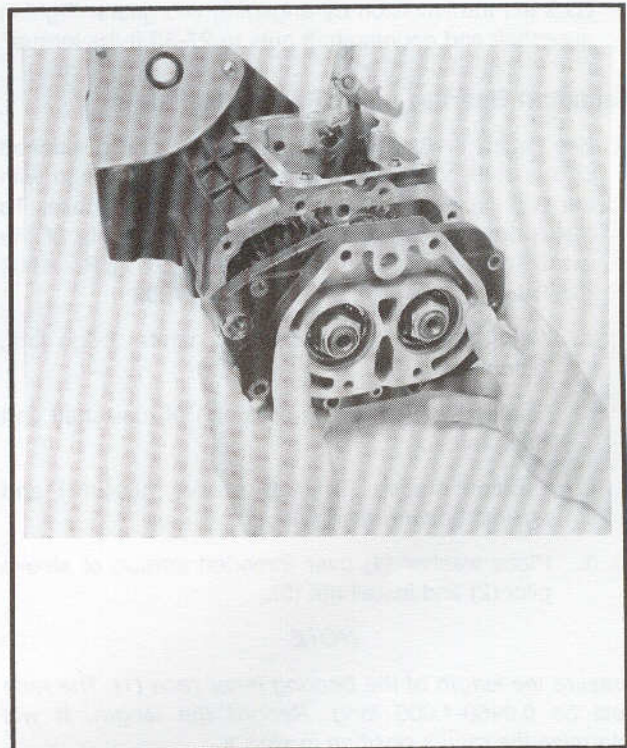

Figure 7-15. Remove Transmission Side Door
10. See Figure 7-15. Remove the transmission side door mounting hardware. Pry the side door loose and remove side door, mainshaft and countershaft from transmission case as an assembly.